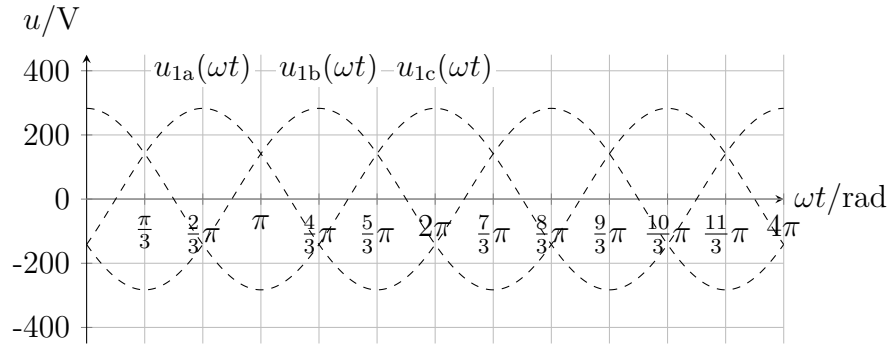

Fig. 5: Output voltage $u_2(t)$ for α .
3.1 Calculate the required firing angle α to deliver the specified motor terminal voltage (induced + ohmic). Draw the output voltage signal $u_2(t)$ for this angle into Fig. 5. [3 Points]